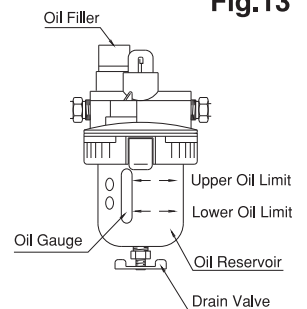

Fig.14
④ Remove Oil and Moisture Regularly (Fig.14)